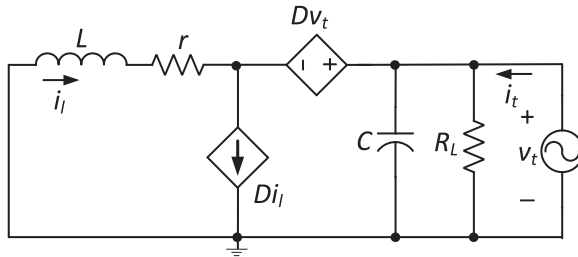

Figure 34.2 Small-signal model of the boost converter for determining the output impedance Z_o with small-signal perturbations $v_i = 0$ and $d = 0$.
1. The small-signal model of the boost converter needed to determine the input impedance is as shown in Figure 34.2.